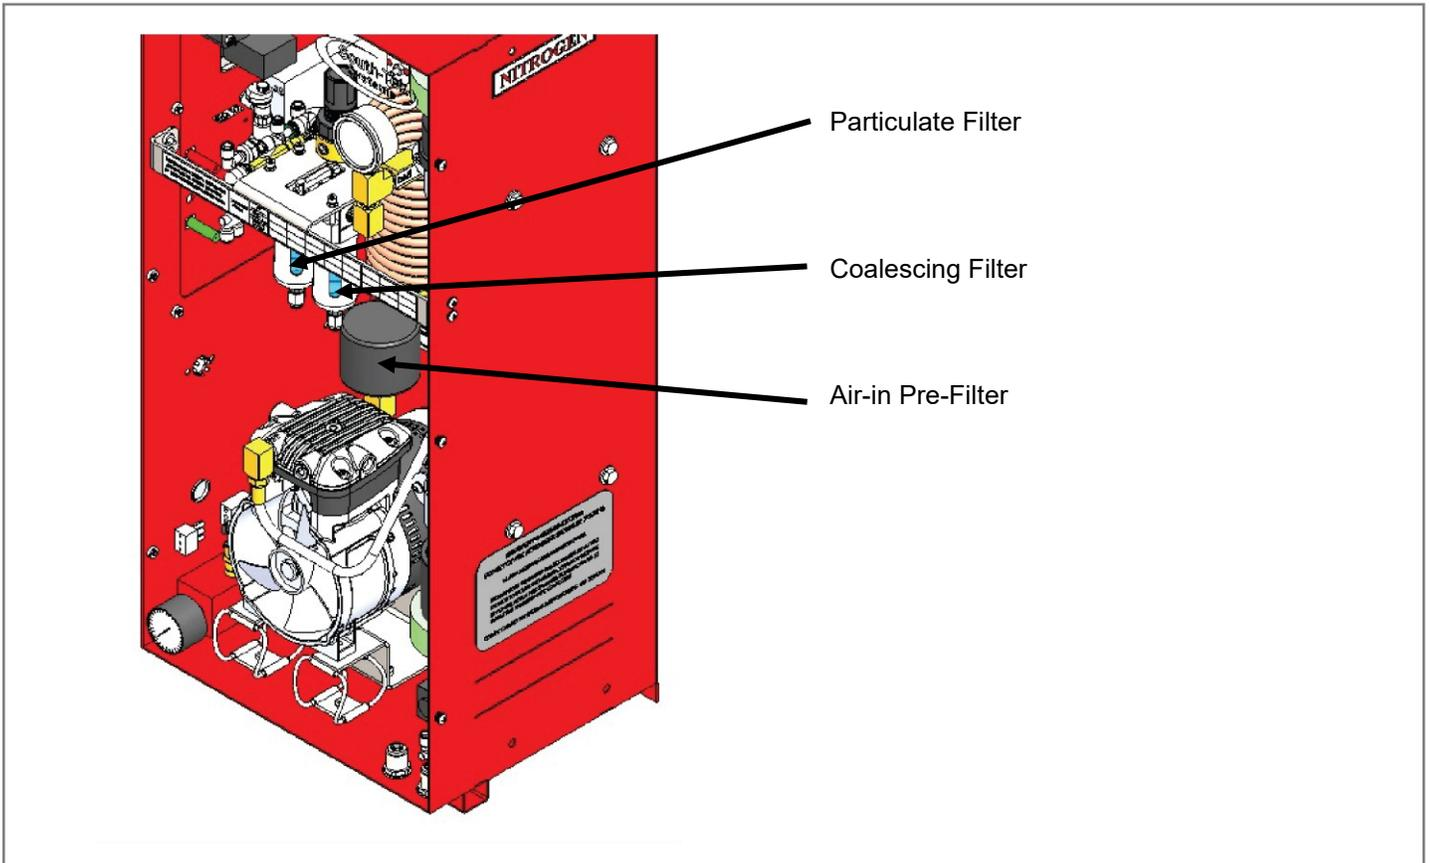

Figure 7: FPS-900 Filter locations
2. Locate the air filters on the bracket in the middle of the cabinet. See **Figure 7**.